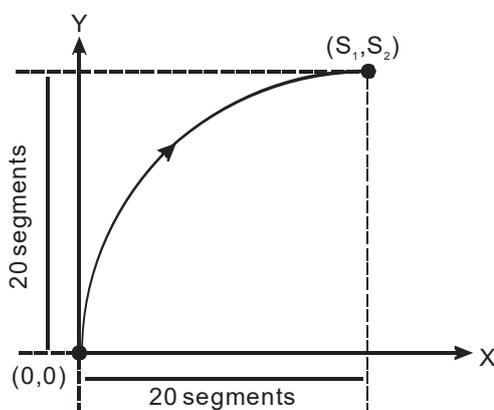

Figure 1
- The low word of S (settings of direction and resolution): K0 refers to clockwise 20-segment output; K1 refers to counterclockwise 20-segment output; A 90° arc can be drawn (see figure 1 and 2).